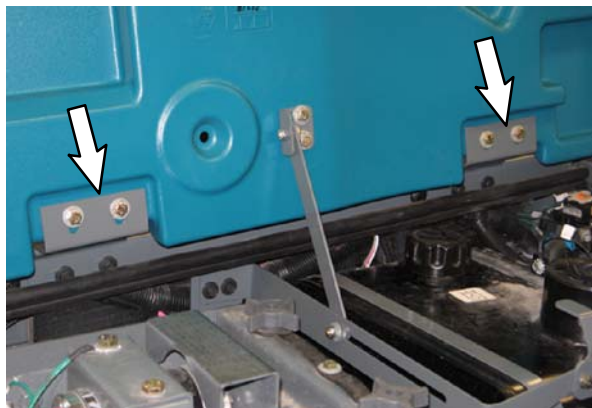

FIG. 57
72. Use four hex screws (51) and four flat washers (19) to install the top cover (81) onto the machine. (Fig. 57)